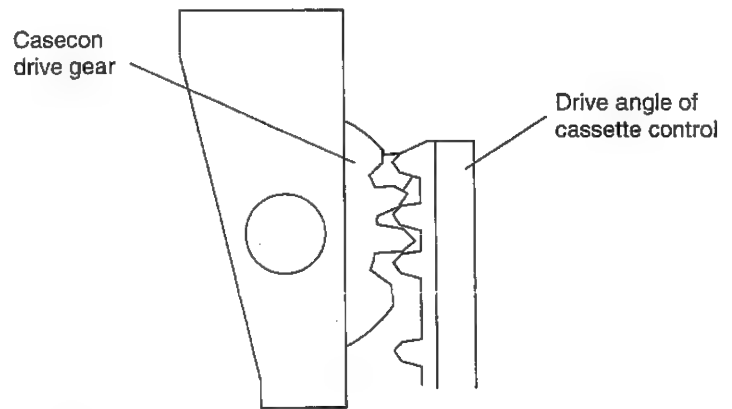

Figure 4-2.
1. Before installation of the cassette housing control assembly, make a short-circuit between TP5005 and TP5006, both located on the operation PWB. Plug in the power cord. The cassette control drive gear starts and stops just when the big face gear shows in the mechanism chassis window. Engage the tooth 2 of the casecon drive gear with the tooth 3 of the cassette control drive angle as shown in Fig. 4-2, to position the cassette control on the mechanism chassis.